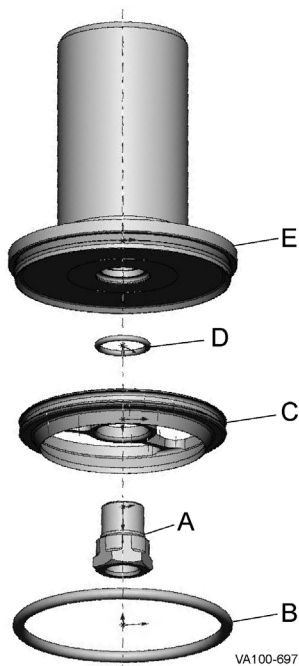

Figure 17 - Upper Stem
3. To remove the blocker from the insert, grasp the upper stem (see page 22, Figure 17, item E) firmly and unscrew the retainer (Figure 17, item A).
- 7. Press in the blocker insert radial seal (Figure 17, item B) by hand.
Table 5: Callout table for Figure 17